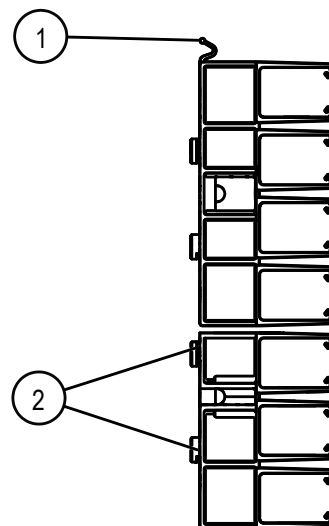
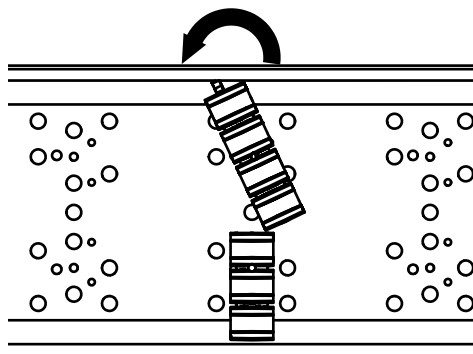

Fig. 27: Locking clip (1) and installing pin (2)
Fig. 29: Hook 4-pole rail hanger clamp onto ProShell 206 Support Profile System
1. First, hook the locking pins (2) of the 3-pole hanger clamp onto the lower part of the ProShell support profile. Then install the 4-pole hanger clamp onto the upper support profile system part using its locking clip (1) (see Fig. 27 to Fig. 29).